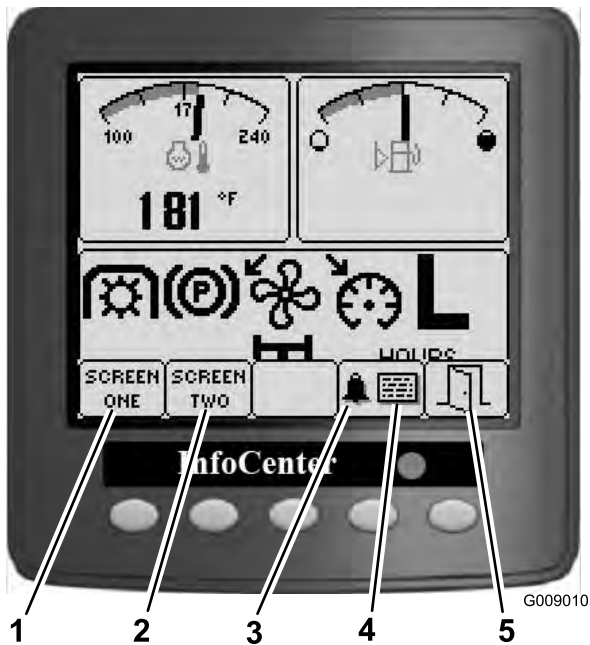

Figure 15
- Press the corresponding button to view screen 1 or screen 2, to stop audible alarm, to view fault screen or to exit (Figure 15).